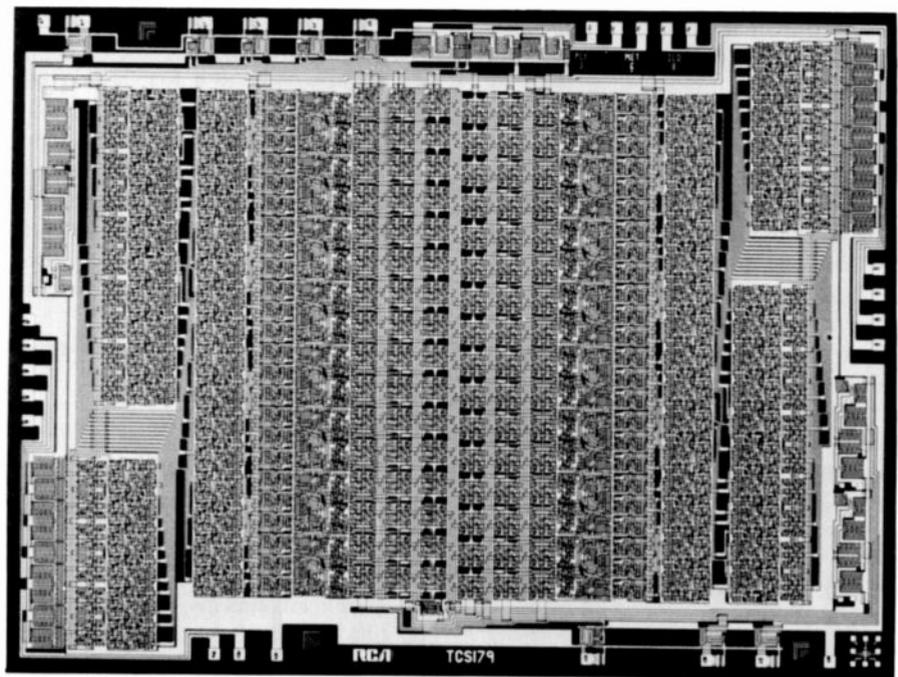

Fig. 6. High performance CMOS/SOS VLSI chip. This is one of a family of VLSI circuits being developed for the Advanced Aegis Signal Processor.
tronics in order to accomplish their missions. RCA is a leading producer of complex electronic integrated circuits for military systems, and has heavily funded R&D programs (1) to improve our capability in error-free circuit design, (2) to build large chips with good yields, (3) to develop new test methodologies to assure reliability, and (4) to provide programmability to facilitate changes in the field. For example, Fig. 6 illustrates a new CMOS/SOS VLSI circuit, a 32-stage correlator to be incorporated in the Advanced Aegis Signal Processor to perform a binary output summation function. This circuit contains 6150 transistors and operates at 10 MHz at 10 volts.